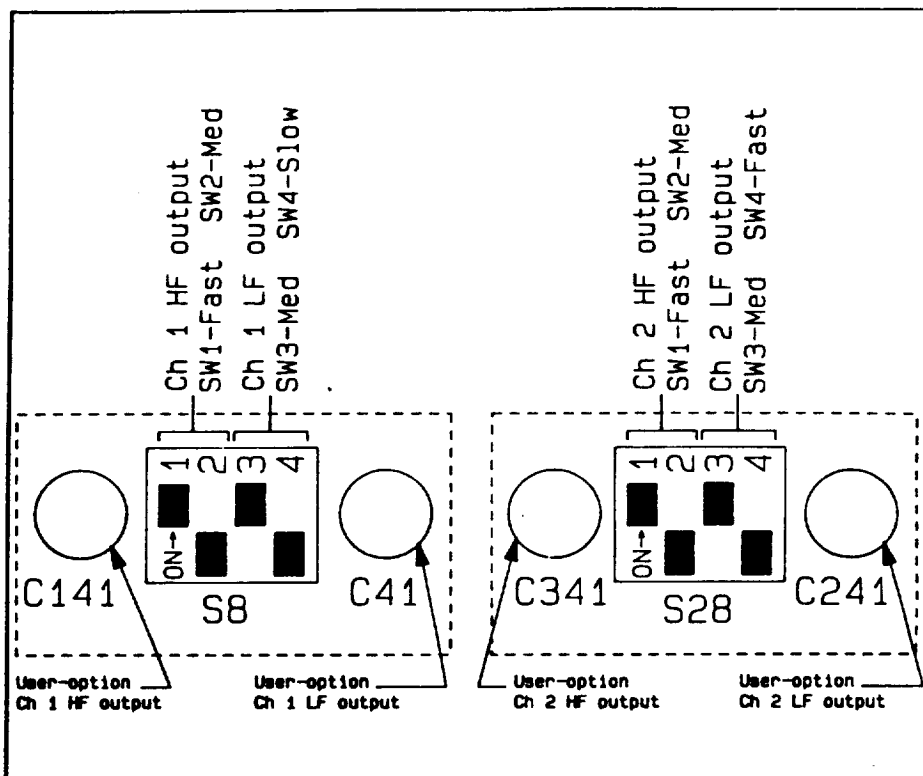

Figure 10. Detailed view of response times selector switches and user-option capacitors.
2. Referring to Figure 10, select the desired response setting for the following:
3. To use the user-option alternative, refer to Figure 10. Increasing the value of the capacitor will increase the response time. Conversely, decreasing the value of the capacitor will decrease the response time. Each of C41, C141, C241 and C341 locations are supplied with lead sockets. Cut the capacitor leads to about  $\frac{1}{4}$  inch and insert them straight into the sockets. Be sure to turn off ALL response time switches in S8 and S28.